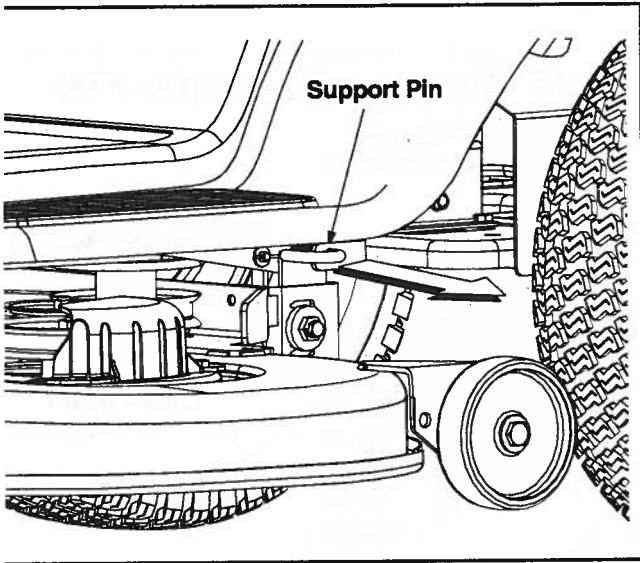

Figure 18
- Pull the deck support pin outward to release the deck from the deck lift arm. See Figure 18.